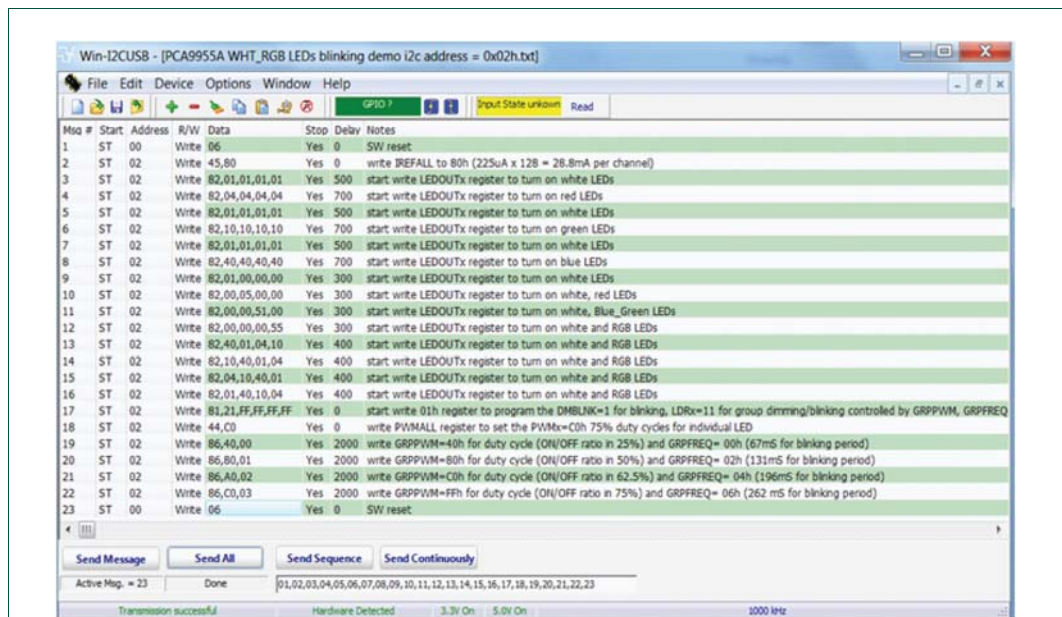

Fig 8. Message data in Expert mode to demonstrate all White and RGB LEDs for blinking
3. After opening the 'PCA9955A/B WHT_RGB LEDs blinking demo i2c address = 0x02h.txt' text file, the Win-I2CUSB GUI in Expert mode screen will be displayed as shown in Figure 8.